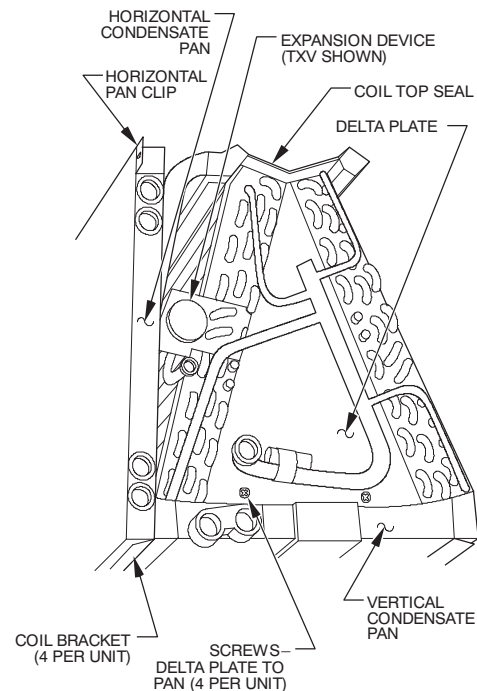

Fig. 25 – A-Coil Component Location
8. Remove horizontal condensate drain pan from coil (if present) and condensate pan assembly (Fig. 25).
9. Remove 4 coil brackets if present (Fig. 25).
10. Remove screws at delta plates and remove coil from vertical condensate drain pan (Fig. 25).
11. Horizontal Applications Only—Remove drain connections and J-shaped tube from original coil, and install them in same position on new coil (Fig. 25).
12. Place coil assembly in plastic condensate pan and secure with 4 screws through delta plate (Fig. 25).
13. Horizontal and Upflow Applications Only—Attach 4 coil brackets to coil and pan assembly (Fig. 25).
17. Horizontal Applications Only—Reinstall horizontal pan clip and secure with 1 screw (Fig. 25).